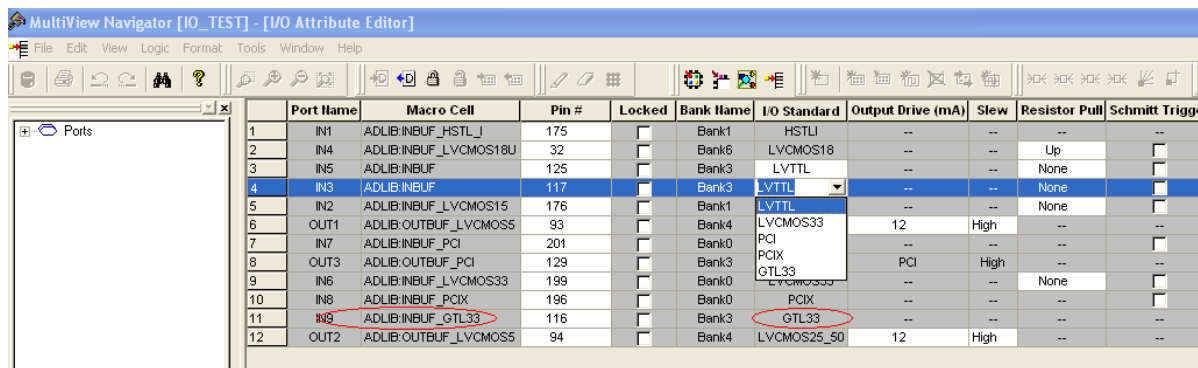

Figure 8-7 • Assigning a Different I/O Standard to the Generic I/O Macro
- Users will need to use the I/O Attribute Editor in Designer to change the default I/O standard if needed (see Figure 8-7 on page 8-9).
- The I/O standard of technology-specific I/O macros cannot be changed in the I/O Attribute Editor (see Figure 8-7).